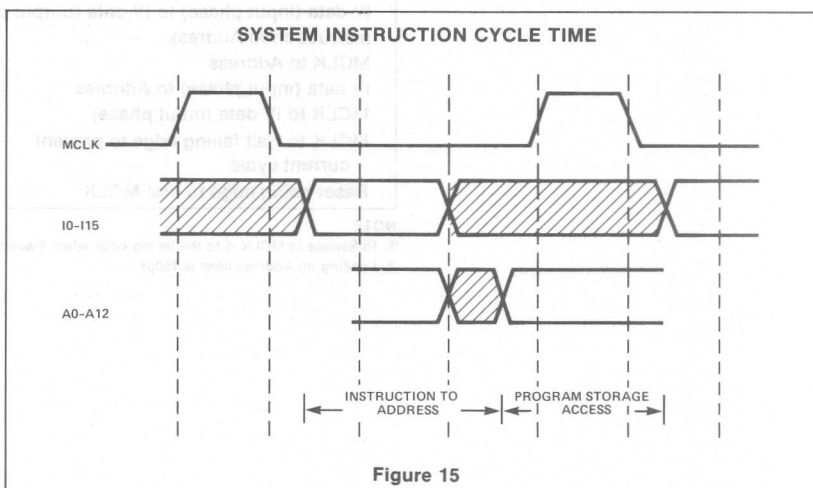

Figure 15
3. Program storage access time and instruction to address \leq instruction cycle time (Figure 15).